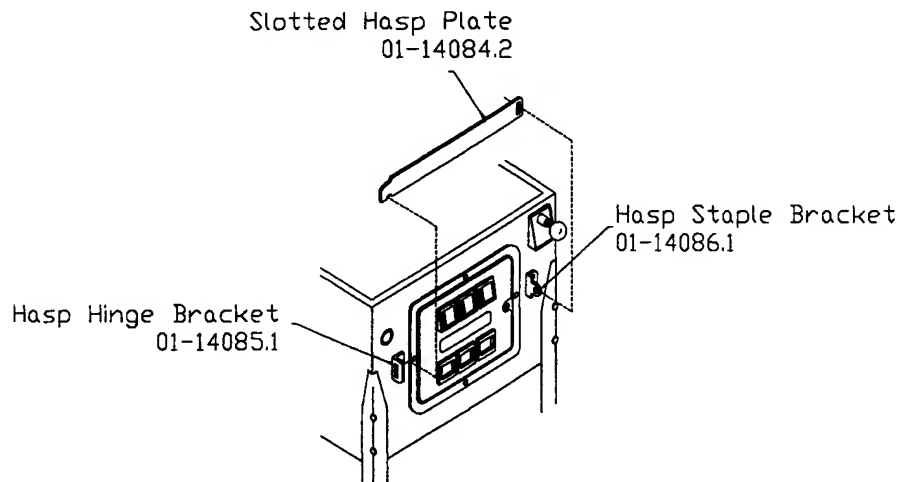

Figure 13
20. If a padlock is desired, install the security bar as shown below in Figure 13.